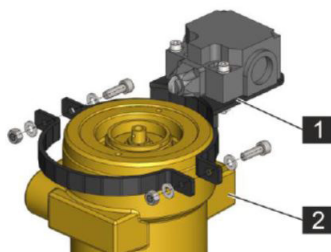

Figure 3
2. Install both parts of the support (Fig. 3/1) at the ring surface at the top of the valve (Fig. 3/2) using enclosed screws, washers and nuts. Tighten the screws with a torque of 5 ± 0.5 Nm (3.69 ± 0.37 ft-lb).